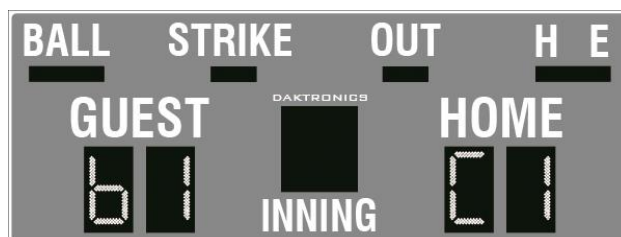

Figure 12: Radio Settings (Home/Guest)
- If there is no clock, the settings should appear in the Home and Guest score digits (**Figure 12**), but this may vary by scoreboard model.